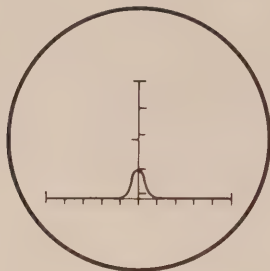

Figure 20
- ( ) Set the 20 dB ATTEN switch at the IN position and observe the pip. The top of the pip should be approximately even with the 30 dB mark as shown in Figure 20. This adjustment calibrates the logarithmic amplitude scale.